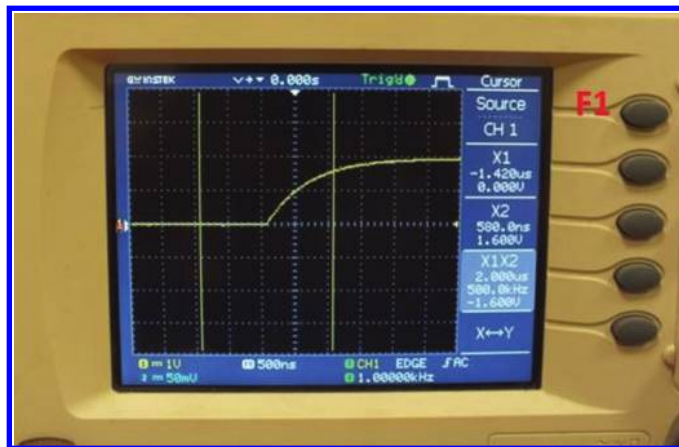

Figure 4.80: Use the F1 button to select the source of measurement.
**Note:** With the aid of the F1 button (see Fig. 4.80), you can select the source of measurement. If you select CH 1, then you can measure the waveform of channel 1 and if you select the CH 2, you can measure the waveform of channel 2.